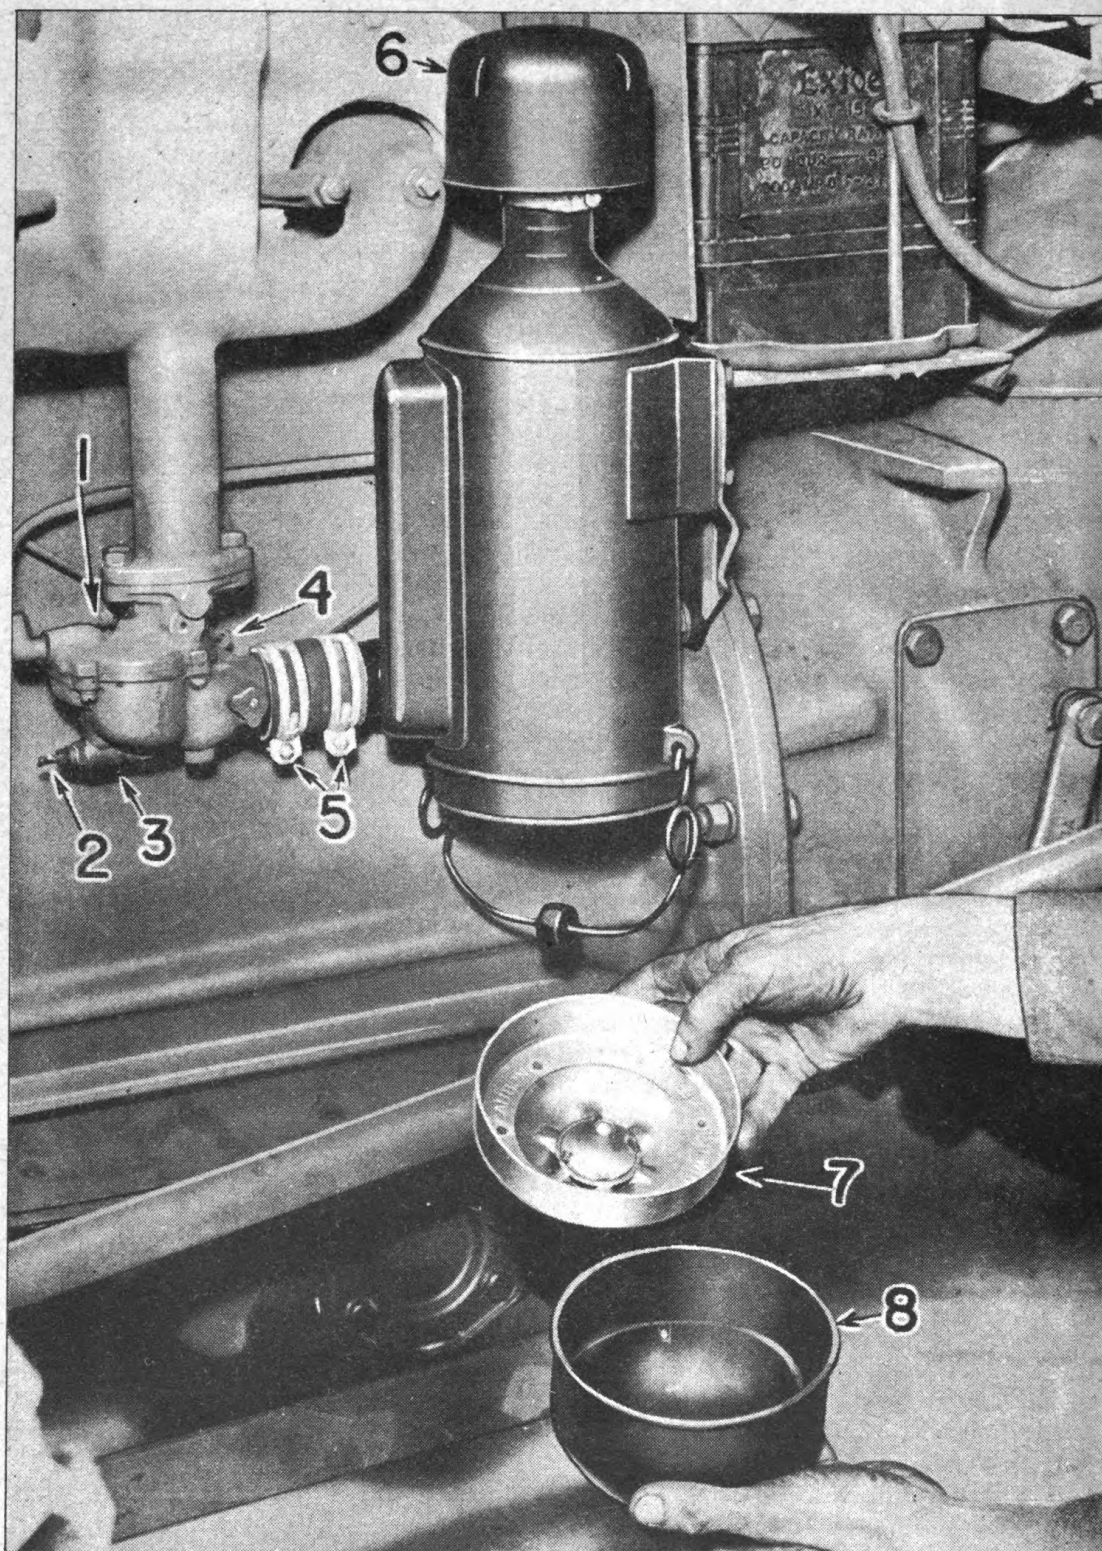

Fig. 9. Left Side of Engine Showing Details of Air Cleaner and Carburetor
Adjustment for idle speed and idle mixture can best be made together and should be made with the engine warm. The throttle lever on the seat mounting bracket should be all the way forward before making the adjustment. The idling speed screw No. 4 Fig. 9 should be adjusted so that the engine will idle fast enough to prevent stalling. Then turn the idling jet adjusting screw No. 1 Fig. 9 in or out until the engine runs smoothly.
This adjustment should be made when the engine is warm and working under load because it exerts the greatest influence under those conditions. Turning the valve No. 2 Fig. 9 inward provides a leaner mixture, while turning outward produces a richer mixture.
Keeping the fuel clean will prevent trouble due to clogging of the filter. Water in the fuel is especially troublesome because it may not be completely removed by the filter. Occasionally open the drain valve No. 3 Fig. 9 in the bottom of the carburetor bowl so that any water and foreign material will drain out.
In order to service the air cleaner Fig. 9, it is necessary to loosen the bail which holds the oil cup (8) to the air cleaner body and remove the cup, including the baffle (7). The baffle (7) must be removed from the cup in order to clean the cup. Never let dirt accumulate in the cup. Clean all foreign matter out of the cup and wipe the baffle clean. Replace the baffle and fill the cup with fresh, free-flowing, clean engine oil to the level indicated on the inside of the baffle (7) Fig. 9. Make certain that the gasket is smooth within the lower flange of the body. Then replace cup and baffle as a unit. Lock them into place by swinging bail downward and inward until it snaps into place. See page 47.
The clean air connection Fig. 9, should be kept air-tight. Otherwise, the purpose of the air cleaner will be defeated. Be sure hose between the air cleaner and carburetor is properly installed and hose clamps (5) Fig. 9 kept tight. Excessive engine wear will result if there are leaks between the air cleaner and the carburetor or in the manifold.